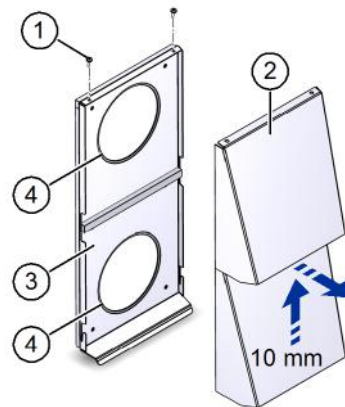

Fig. 9: Removing the cover
- ▶ Remove the two cross-head screws (item 1 in Fig. 9) at the top of the outer wall terminal.
- ▶ Slide the cover (item 2 in Fig. 9) up roughly 10 mm. Lift the cover away from the base plate (item 3 in Fig. 9).
- ▶ Fully coat the 4 mm wide sealing surfaces (item 4 in Fig. 9) on the inside with Vaseline.